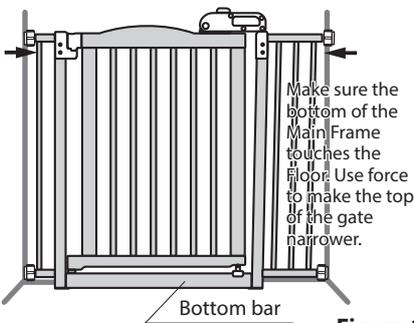

Figure 1
•The bottom of the product should contact the floor for safety as shown in Figure 1.
If necessary, use force to make the top of the gate narrower to fit between the wall as shown in Figure 1.